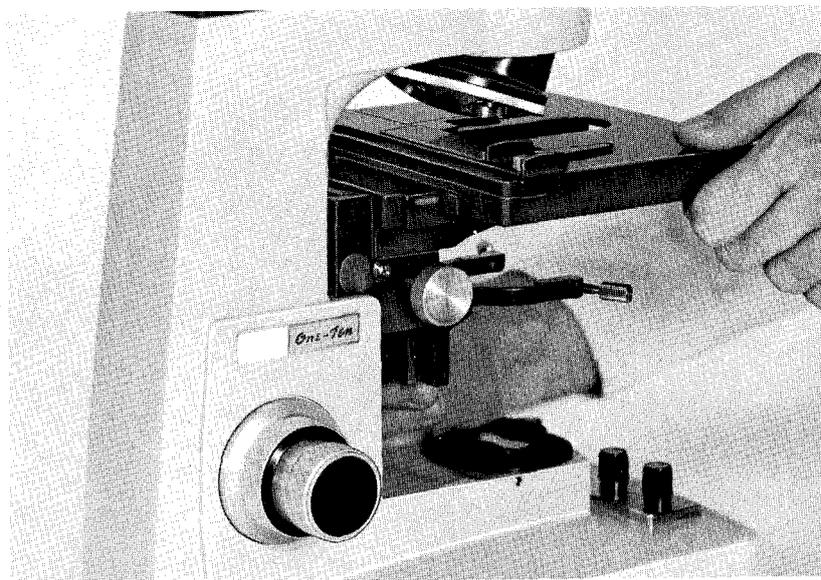

Figure 12. Removing Stage
- (d) While supporting the stage in one hand, loosen locking screw (Figure 4) and raise the entire assembly from the dovetail slide, tilting it forward at the top of the slide to clear the nosepiece. (Figure 12)